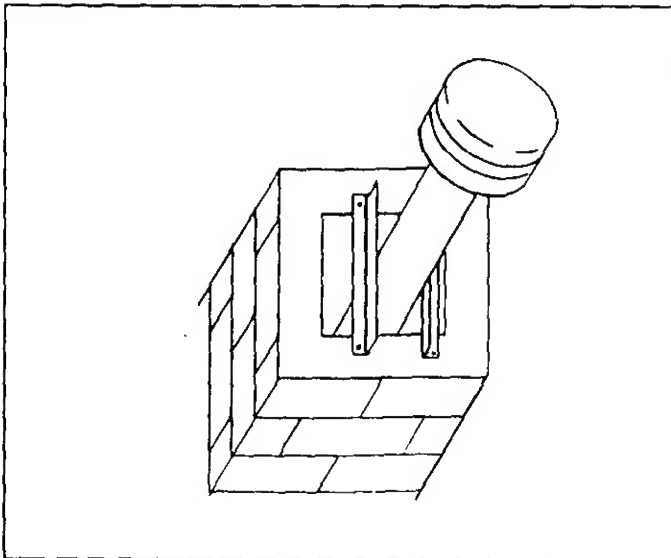

FIGURE 16
**WARNING:** Support Type B1 vent liner in masonry chimney. Maintain at least a 1" clearance on all sides to reduce possibility of condensate in vent. Condensate may cause vent to deteriorate allowing combustion products to collect in structure, which could result in injury or death. See Figure 16.